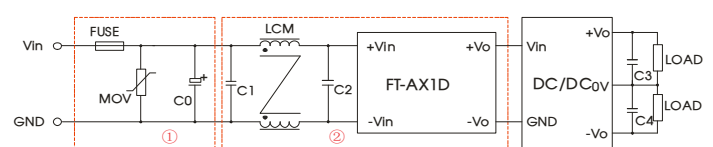

Fig. 4
RE	CISPR32/EN55032 CLASS A (see Fig. 4-② for recommended circuit)
EFT	IEC/EN61000-4-4 ±2kV (see Fig. 4-① for recommended circuit) perf. Criteria B
Surge	IEC/EN61000-4-5 ±2kV (see Fig. 4-① for recommended circuit) perf. Criteria B